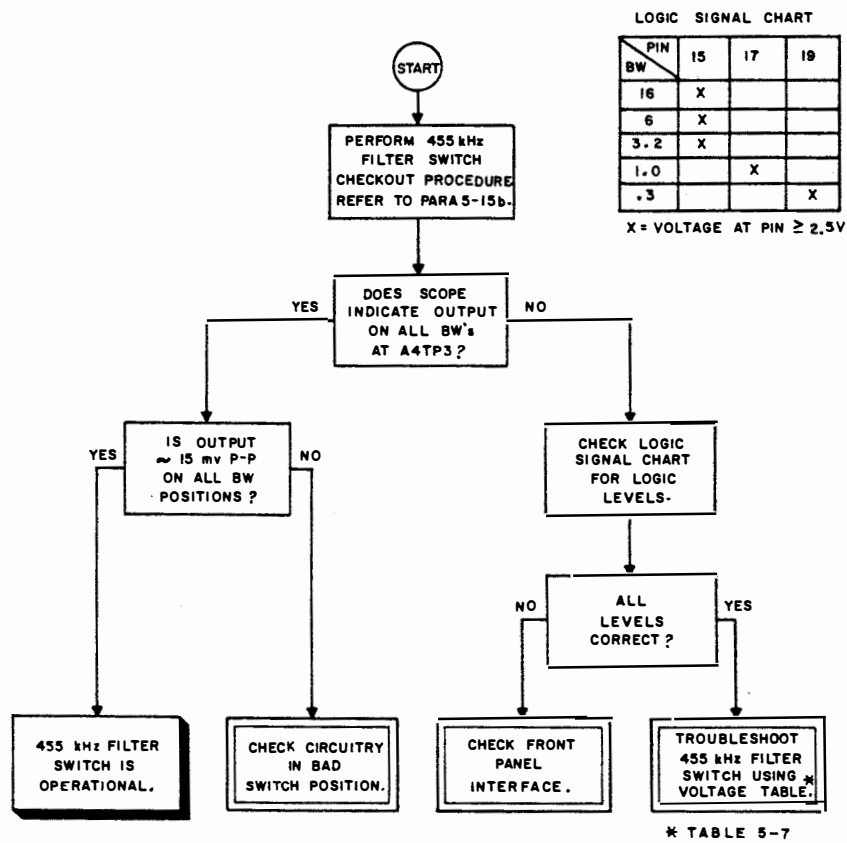

Figure 5-13. 455 kHz Filter Switch Fault Logic Diagram
- (1) Figure 5-13, 455 kHz Filter Switch Fault Logic Diagram.
- (2) Table 5-7, 455 kHz Filter Switch Voltage Table.
- (3) FO-6, 455 kHz Filter Switch Schematic Diagram.
- (4) 455 kHz Filter Switch circuit description, paragraph 3-34.